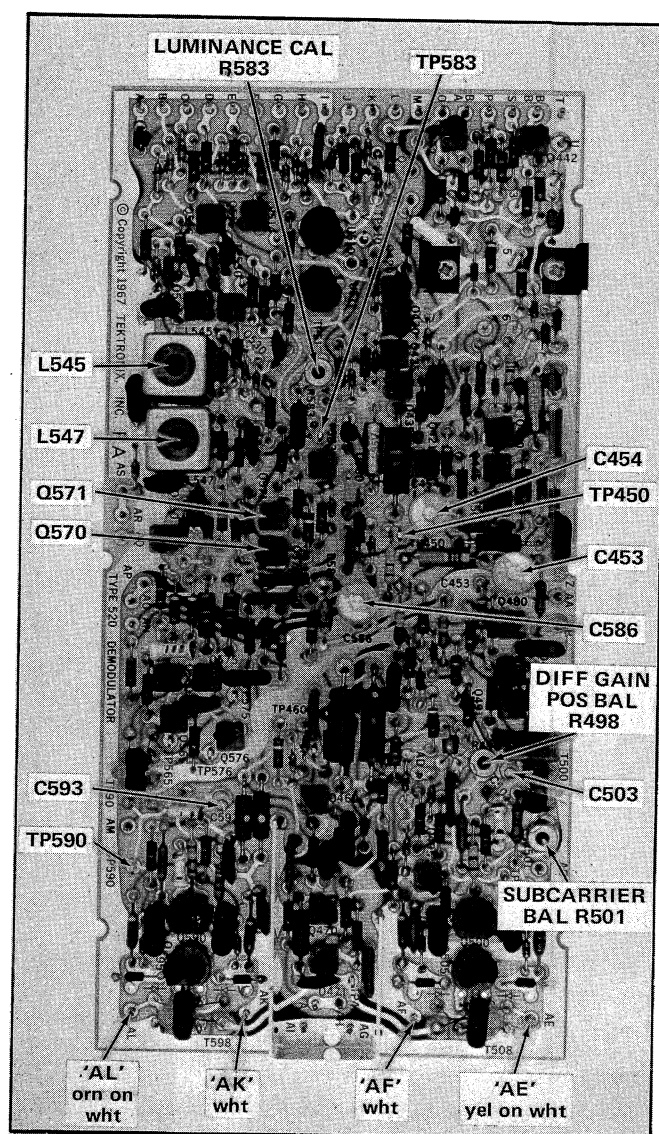
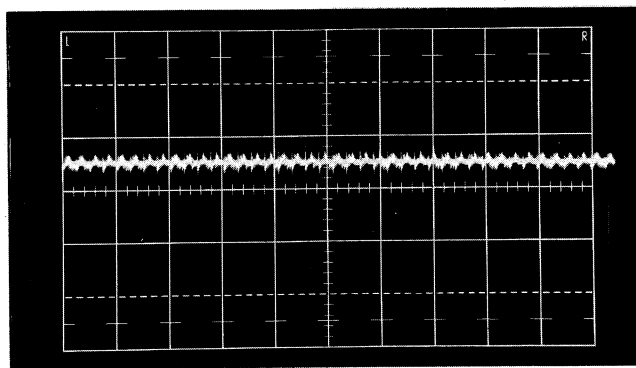

Fig. 6-12. Demodulator board test point and adjustment locations.
Fig. 6-13. Typical waveform obtained when LUMINANCE CAL control, R583, is correctly adjusted using step 18A procedure.
a. Remove Q570 (see Fig. 6-12) from its socket on the demodulator board.
b. Connect a precision DC voltmeter between ground and TP583 (see Fig. 6-12).
f. ADJUST—LUMINANCE CAL control, R583 (see Fig. 6-12), until the voltmeter reading is one volt more positive than that noted in part c.
d. Connect the 1X probe from the test oscilloscope A input connector to TP583 on the demodulator board; see Fig. 6-12.
f. **CHECK**—Test oscilloscope display; must appear similar to Fig. 6-13. (The bottom of the upper waveform is aligned with the top of the lower waveform.)
g. ADJUST—LUMINANCE CAL control, R583 (see Fig. 6-12) for a test oscilloscope display similar to Fig. 6-13.
c. After the 10X probes have been matched, connect one probe from the test oscilloscope channel A vertical input connector to TP583 on the demodulator board; and the other probe from channel 2 vertical input connector to TP450; see Fig. 6-12.